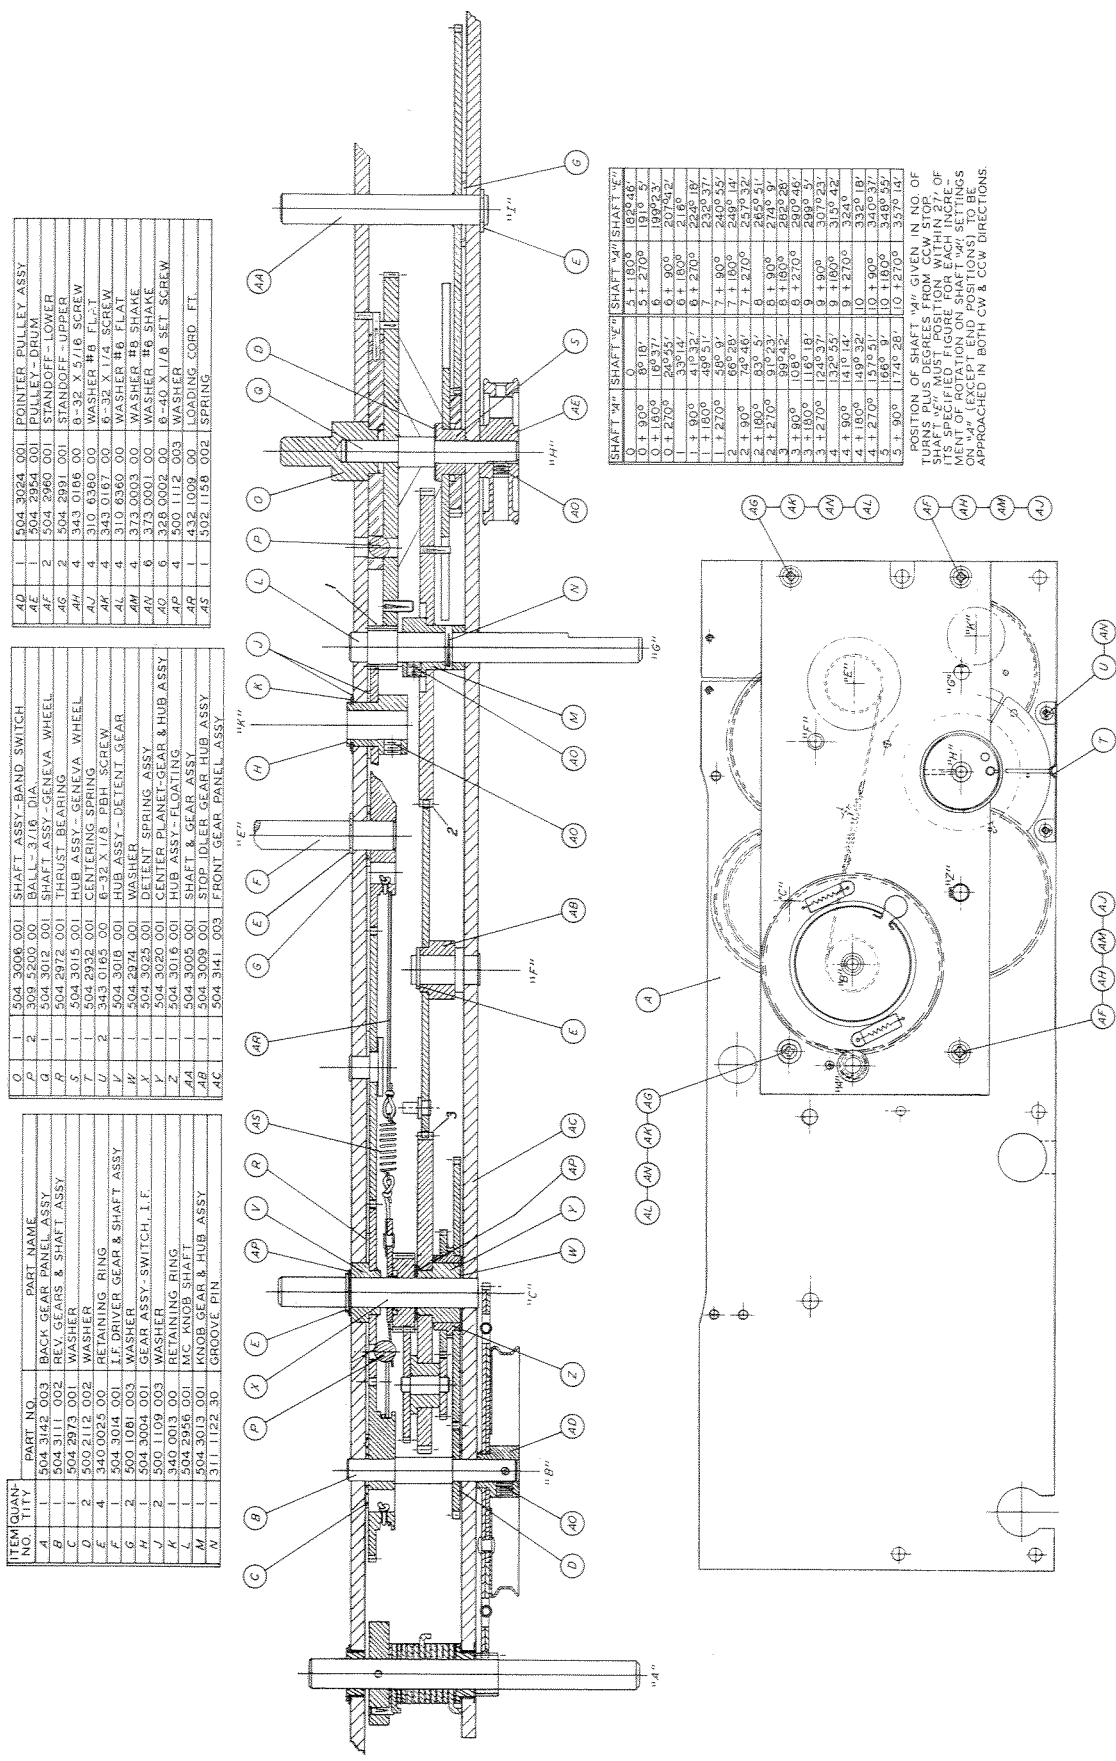

Figure 5-5 Dial and Bandswitch Gear Box
IF DISASSEMBLY OF THE GEAR UNIT IS CONTEMPLATED, BE SURE TO MARK THE GEARS SHOWN ON FIGURE 5-5 AS NUMBERS "1, 2, and 3" WITH A CONTINUOUS SCRIBE MARK FROM ONE GEAR TO THE MATING GEAR OR WITH TWO SPOTS OF PAINT, ONE ON EACH GEAR. WITHOUT THIS MARKING, PROPER SYNCHRONIZING OF THE GEARS UPON RE-ASSEMBLY WILL BE IMPOSSIBLE.
5.6.3. ASSEMBLY OF GEAR BOX. - Use AN-G-25 or equivalent grease on all bearing surfaces during assembly. The assembly procedure given here is essentially the procedure used at the factory; the service man should use the steps where they apply. Assembly as shown in figure 5-5. The various shafts can be located in the front view by referring to the letters in quotation marks. The washers, item (W), on shaft "C" and item (D) on shaft "H" are shims and should be used in quantity required to keep end play of respective pieces at reasonable minimum.